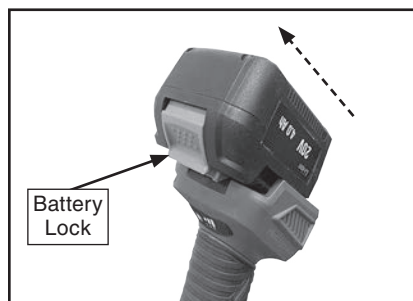

Figure 5. Location of battery lock.
1. Press battery lock (see **Figure 5**) and remove battery from sander.